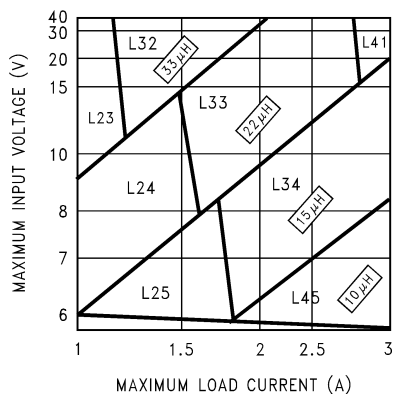
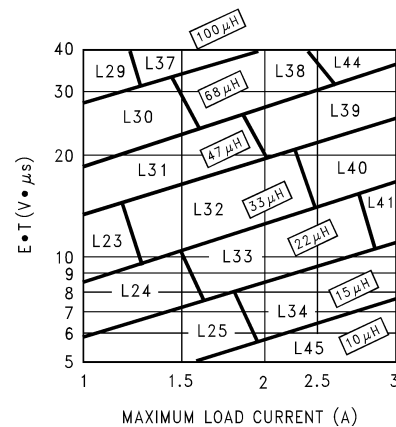

Figure 21. LM2676-3.3
Figure 24. LM2676-ADJ
Step 3: Determine the inductor required by using one of the four nomographs, Figure 21 through Figure 24. Table 1 provides a specific manufacturer and part number for the inductor.
Step 5: Determine an input capacitor from Table 8 or Table 9 for fixed output voltage applications. Use Table 3 or Table 4 to find the specific capacitor type. For adjustable output circuits select a capacitor from Table 3 or Table 4 with a sufficient working voltage (WV) rating greater than $V_{in\ max}$, and an rms current rating greater than one-half the maximum load current (2 or more capacitors in parallel may be required).
Step 3: Use the nomograph for the 3.3V device, Figure 21. The intersection of the 16V horizontal line ($V_{in\ max}$) and the 2.5A vertical line ($I_{load\ max}$) indicates that L33, a 22 μ H inductor, is required.
Step 3: To use the nomograph for the adjustable device, Figure 24, requires a calculation of the inductor Volt•microsecond constant ($E \cdot T$ expressed in $V \cdot \mu\text{S}$) from the following formula:
Using Figure 24, the intersection of 27V• μS horizontally and the 2A vertical line (I_{load} max) indicates that L38, a 68 μH inductor, should be used.
When using the adjustable device in low voltage applications (less than 3V output), if the nomograph, Figure 24, selects an inductance of 22 μH or less, Table 12 and Table 13 do not provide an output capacitor solution. With these conditions the number of output capacitors required for stable operation becomes impractical. It is recommended to use either a 33 μH or 47 μH inductor and the output capacitors from Table 12 or Table 13.